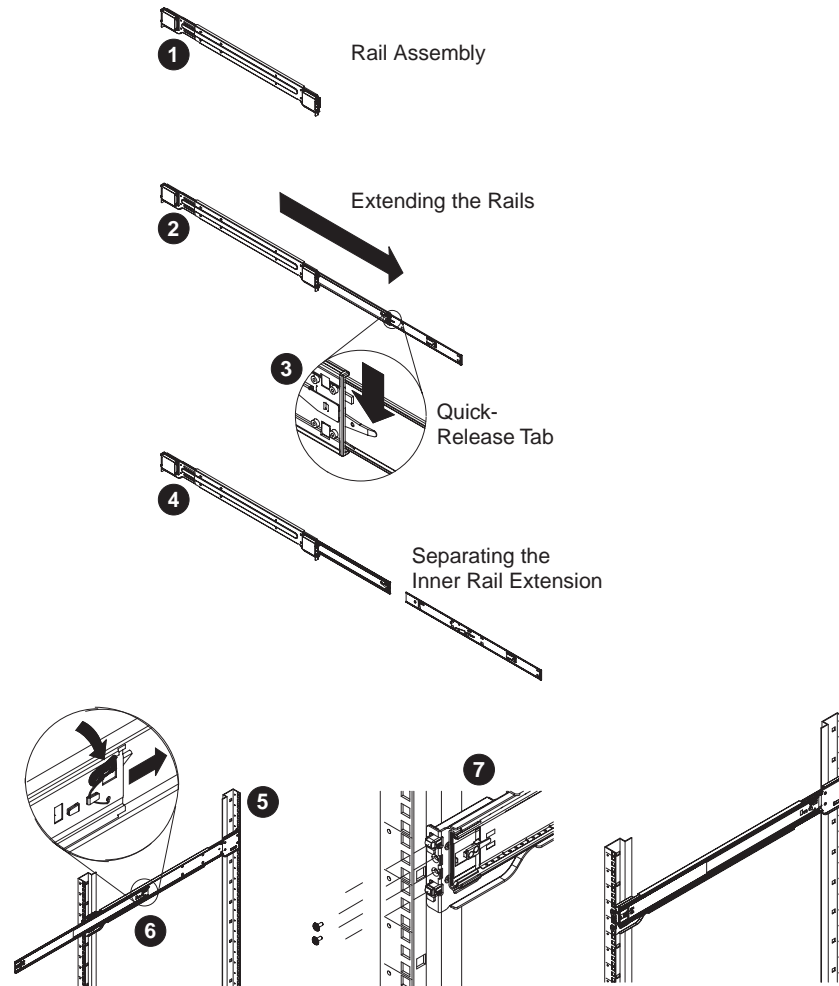

Figure 2-1 Separating and Installing the Rack Rails
1. Locate the rail assembly in the chassis packaging as shown in Figure 2-1.
2. Attach a short bracket to the front side of the right outer rail and a long bracket to the rear side of the right outer rail (see Figure 2-1 on page 13).